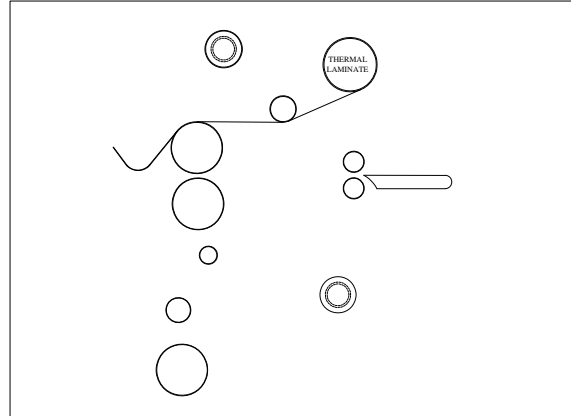

FIGURE 19
4. Pull the top roll film down under the upper idler bar and allow to drape over the top heat roller (Fig. 19)